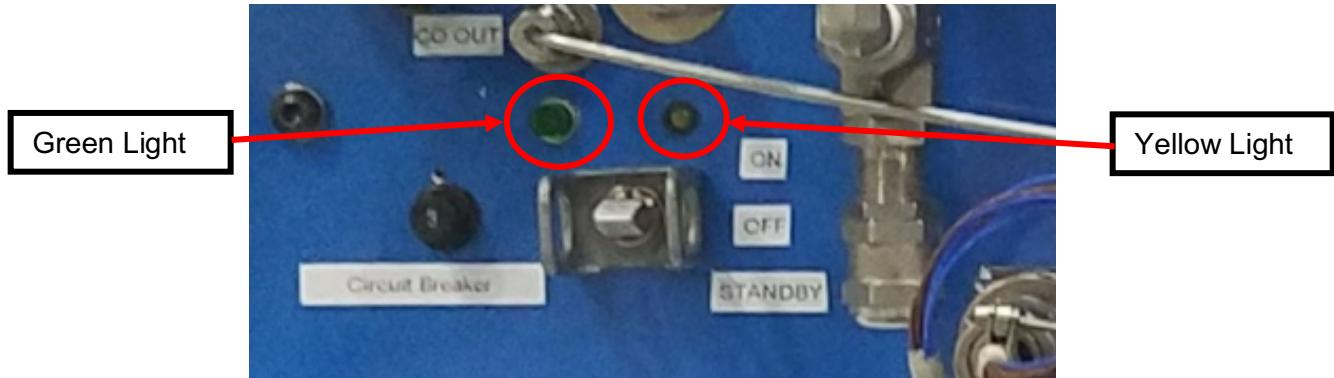

Figure 4: Sabatier Panel
3.1 On the Sabatier Panel, move the power switch to “STANDBY” (see Figure 4).
3.2 Confirm yellow light blinks indicating Sabatier is in Standby mode (see Figure 4).
- 5.2 Switch Sabatier to “ON” (see Figure 4).
- 6.1 After the filtering time has been completed, on the Sabatier Panel, move the power switch to “STANDBY” (see Figure 4).
- 6.2 Confirm yellow light blinks indicating Sabatier is in Standby mode (see Figure 4).
- 7.1 Switch Sabatier to “ON” (see Figure 4).